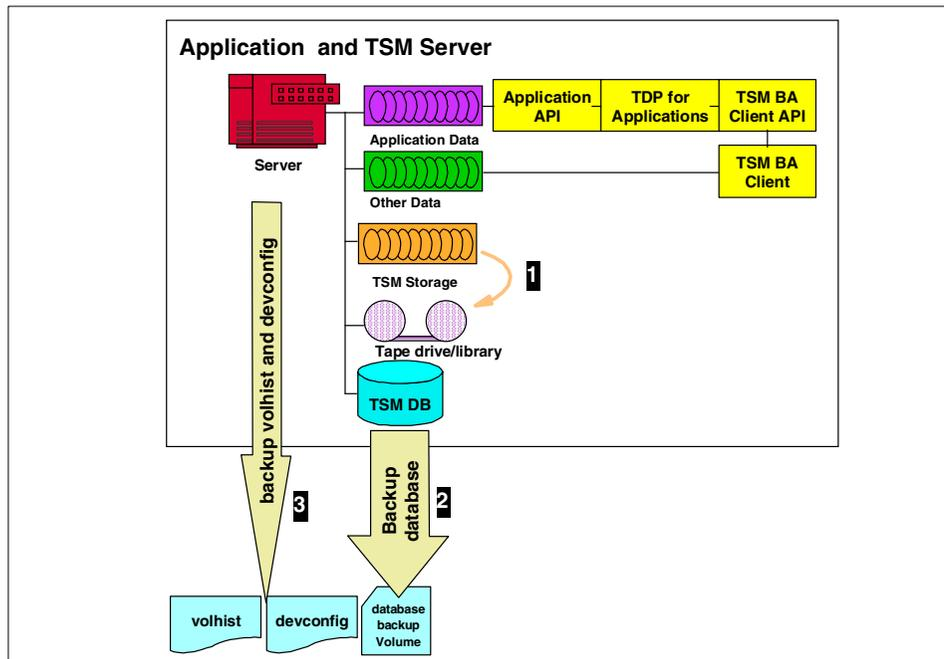

Figure 90. Backing up the initial configuration
- a. On the original system, move all the data that resides in the disk storage pools to the tape pools (see Figure 90, Step 1).
- b. Create a Tivoli Storage Manager server database backup on the original system. The type of backup can be a full backup or snapshot (2). Also copy the volume history file, as well as the device configuration file (3). Make sure that the backup that you make is available after the move. The easiest solution is to use a volume that is currently in the library (or more than one volume).